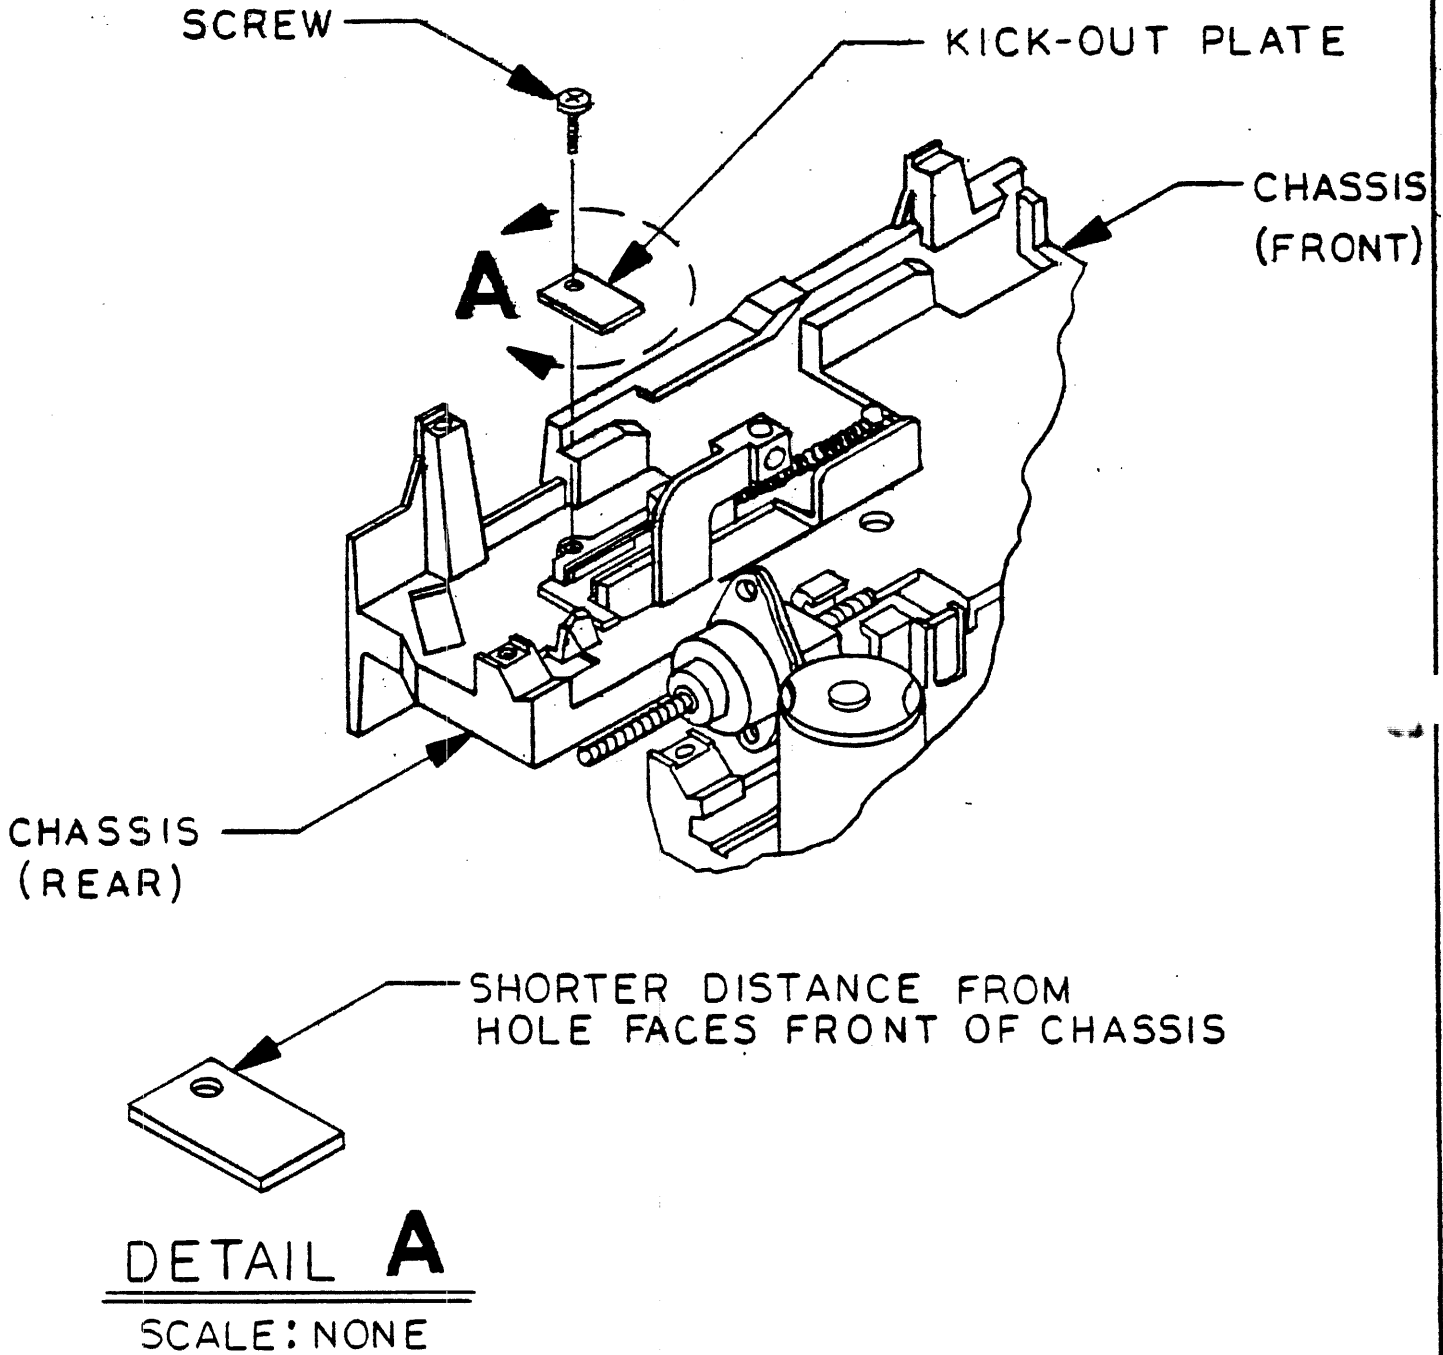

FIGURE 4. THE INSTALLATION OF THE KICK-OUT PLATE
- 7.3.1 Put a screw (6-32 X 1/4 in.) in the kick-out plate and place the plate on the chassis above the kick-out body as shown in Fig. 4. Be sure the edges of the plate are square with the chassis and in accordance with the note below. (See Fig. 4.) Tighten the screw using the pneumatic screwdriver set at 6 in-lb.